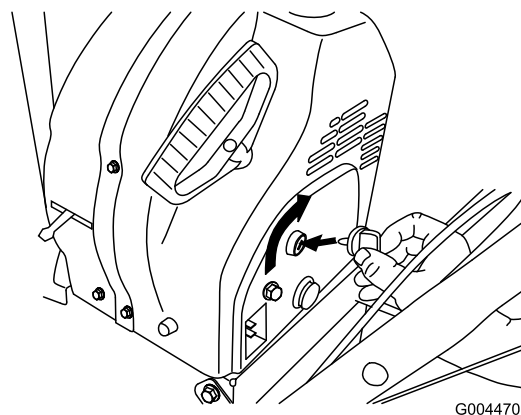

Figure 20
1. Insert the key and turn it clockwise to the On position (Figure 20).